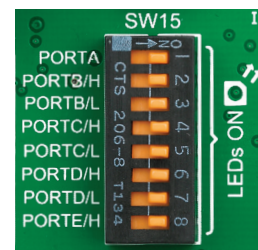

Figure 6-6: SW15.1 through SW15.8 switches are used to enable PORT LEDs
specified by the manufacturer. The current varies from 0.2mA to 20mA, depending on the type of the LED and the manufacturer. The EasyMx PRO™ v7 for STM32 board uses low-current LEDs with typical current consumption of 0.2mA or 0.3mA. Board contains 67 LEDs which can be used for visual indication of the logic state on PORT pins. An active LED indicates that a logic high (1) is present on the pin. In order to enable PORT LEDs, it is necessary to enable the corresponding DIP switch on **SW15** (Figure 6-6).